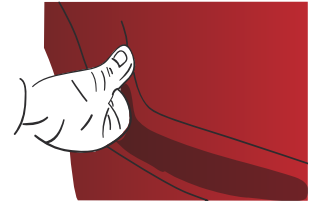

Figure 10
- › Heat to a temperature ranging from 40 °C to 50 °C (from 104 °F to 122 °F) and press the film with your thumb into the hollow area so as to properly apply the adhesive. (FIG. 10)